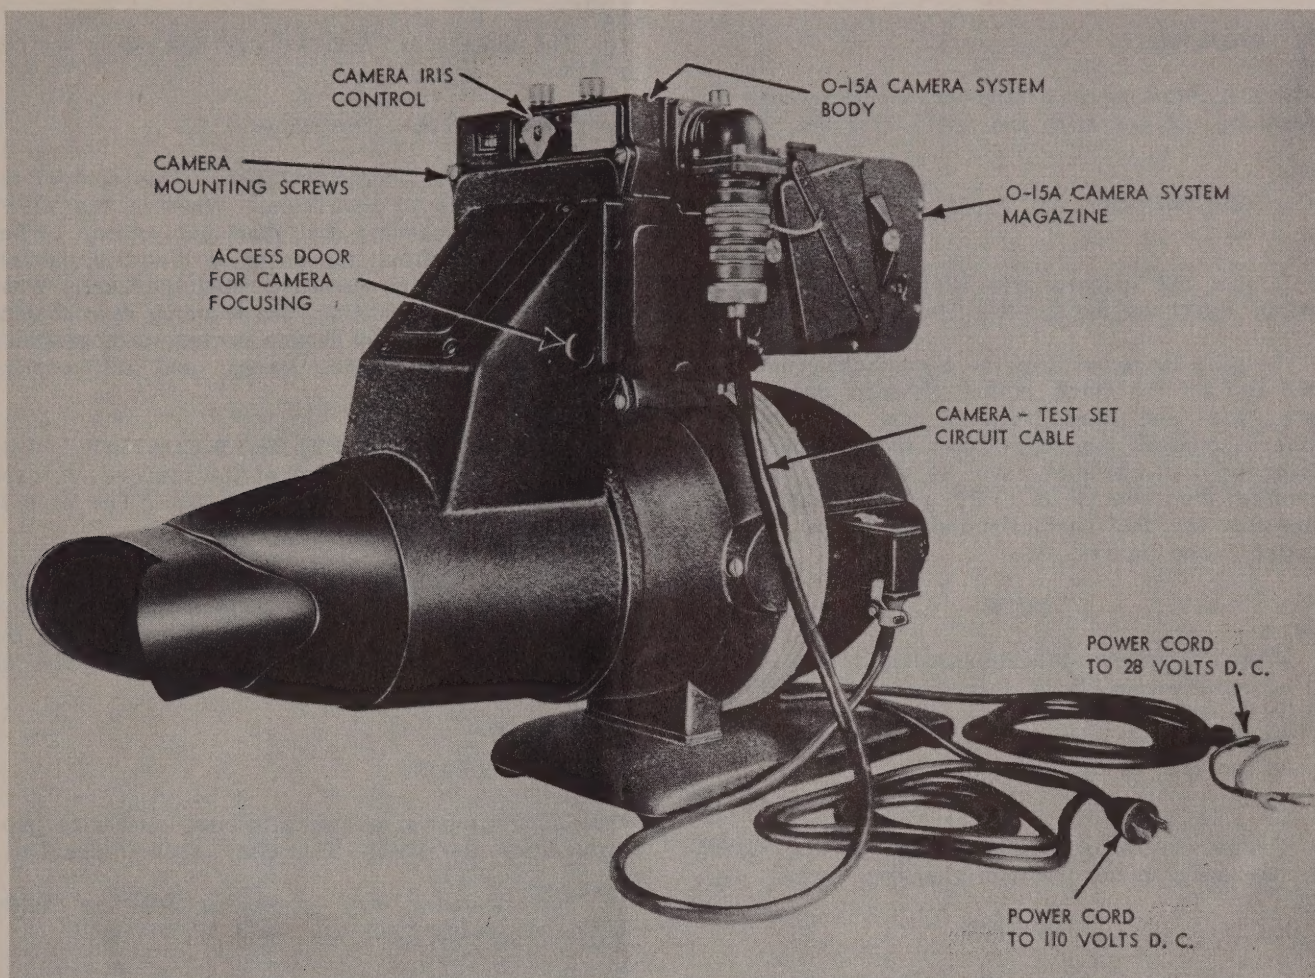

Figure 3-2. Test Set Ready for Operation
- d. Use the four 8-32 screws provided and mount the camera upon the periscope (figure 3-2).
g. Connect the power cord with the plug to 110-volt AC power supply (figure 3-2).
4-3. PRELIMINARY ADJUSTMENTS. (See figure 3-2.)